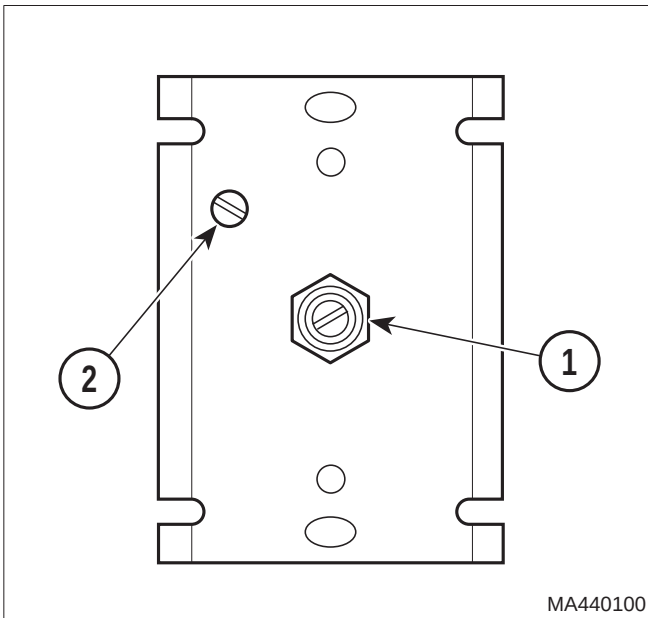

FIGURE 2
2. Turn knob shaft (1, Figure 2) on dimmer switch fully clockwise (CW).
3. Using a small screwdriver, turn dimmer switch trim pot (2) fully clockwise. Light is now at full intensity or brightness.
4. Turn knob shaft (1) on dimmer switch fully counter-clockwise (CCW) but do not turn off light.
5. Slowly turn trimpot (2) counter-clockwise (CCW) until just before light begins to flicker and go out. Dimmer is now adjusted.
6. Turn knob shaft (1) clockwise (CW) so that light is at full brightness.